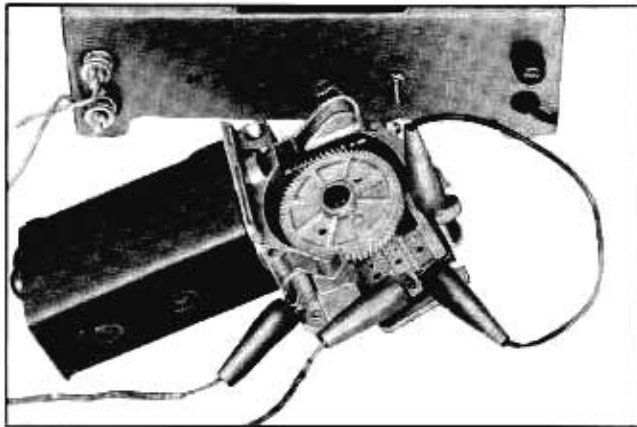

Fig. 11-55 Checking Wiper
2. With ignition on, check for 12 volts at feed wire terminal that connects to the No. 2 wiper terminal (Fig. 11-55). If no voltage reading was obtained, check car wiring.
3. If correct voltage is obtained in step (2), connect 12 volts to No. 2 terminal (Fig. 11-55) and connect a jumper wire from the No. 1 terminal to ground. If wiper operates, a defective dash switch or broken wire to dash switch is indicated.
4. If wiper fails to operate in step (3) remove body parts as necessary to gain access to the wiper transmissions and linkages. Disconnect transmission arms from wiper crank arm and recheck to see if wiper will operate. If wiper operates correctly, trouble is located in the transmissions. If wiper fails to operate, remove wiper from car for bench check.
Connect wiper to 12 volt system as shown in Fig. 11-55 and note current draw. The following ammeter
(a) Check that wiper motor lead that connects to the No. 1 terminal (Fig. 11-55) is not grounded.
Connect wiper as shown in Fig. 11-55 and note current draw. If current draw does not exceed 4.5 amps a weak circuit breaker is indicated and the
6. Operate wiper (Fig. 11-55) and allow wiper to park by disconnecting the jumper wire.